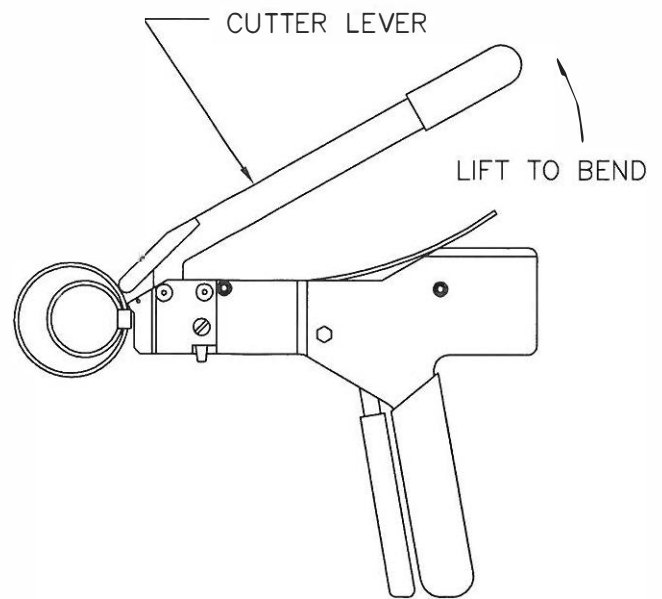
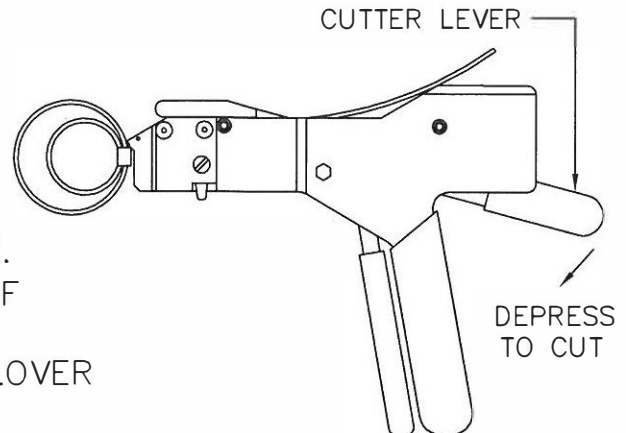

FIGURE 3
FIGURE 4
- 1.5 To complete the termination, the band must be bent 90° by lifting the cutter lever upwards (Figure 3), and then cut by depressing the cutter lever downwards (Figure 4). WHEN THE CUTTING OPERATION HAS STARTED IT MUST BE COMPLETED PRIOR TO ANY FURTHER MOVEMENT OF THE BAND IN THE TOOL.